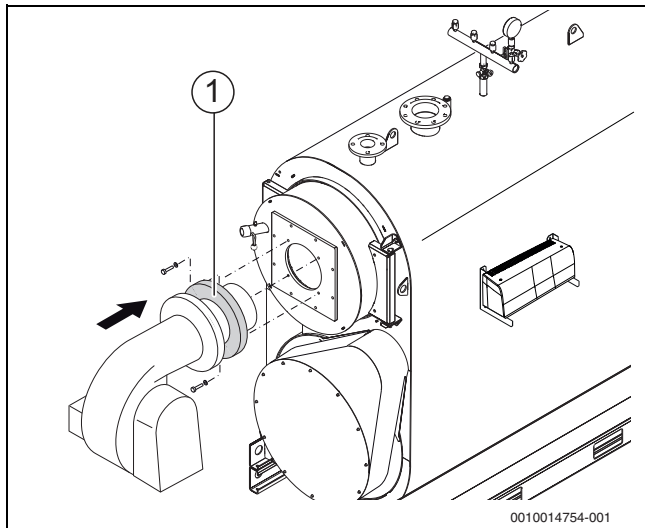

Fig. 17 Remove the gasket
- Push a gasket (→ Figure 17, [1], page 22) onto the burner connector.